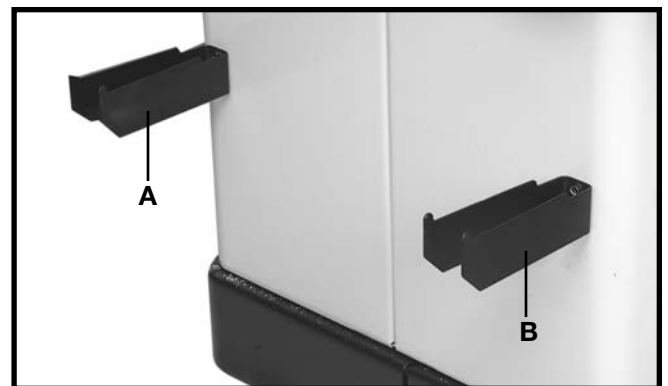

Fig. 37
Assemble the rip fence holder brackets (A) and (B) Fig. 37, to the four holes located in the left hand side of the saw cabinet using four #10x1/2" sheet metal screws supplied.